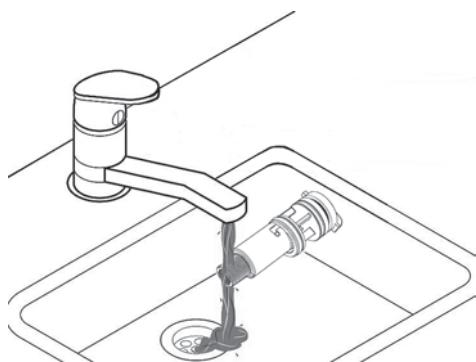

fig. 47
- The flowmeter components can thus be cleaned (see fig. 47 and fig. 48) or replaced.